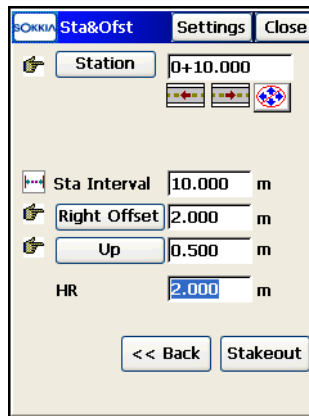

Figure 9-34. Station & Offsets
3. In the Stakeout *Sta&Ofst* screen (Figure 9-34 on page 9-26), set the station along the curve being staked, the station staking interval, the left or right offset of the stakeout point with respect to the curve, the Up/Down Height offset, the height and the type of the antenna height (GPS mode), or the height of the rod (target) (TS mode).